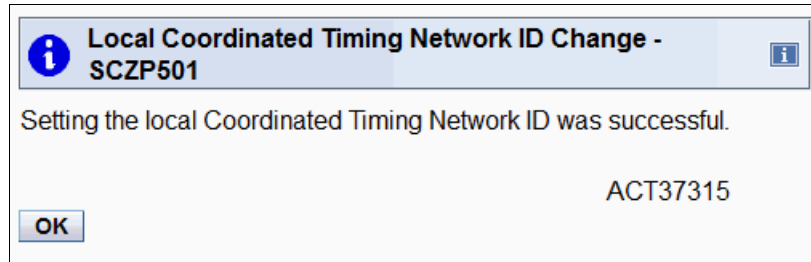

Figure 9-36 System (Sysplex) Time: Local Coordinated Timing Network ID Change
- When the CTNID setting is complete, the Local Coordinated Timing Network ID Change panel opens (Figure 9-36). Click **OK** to complete the operation.